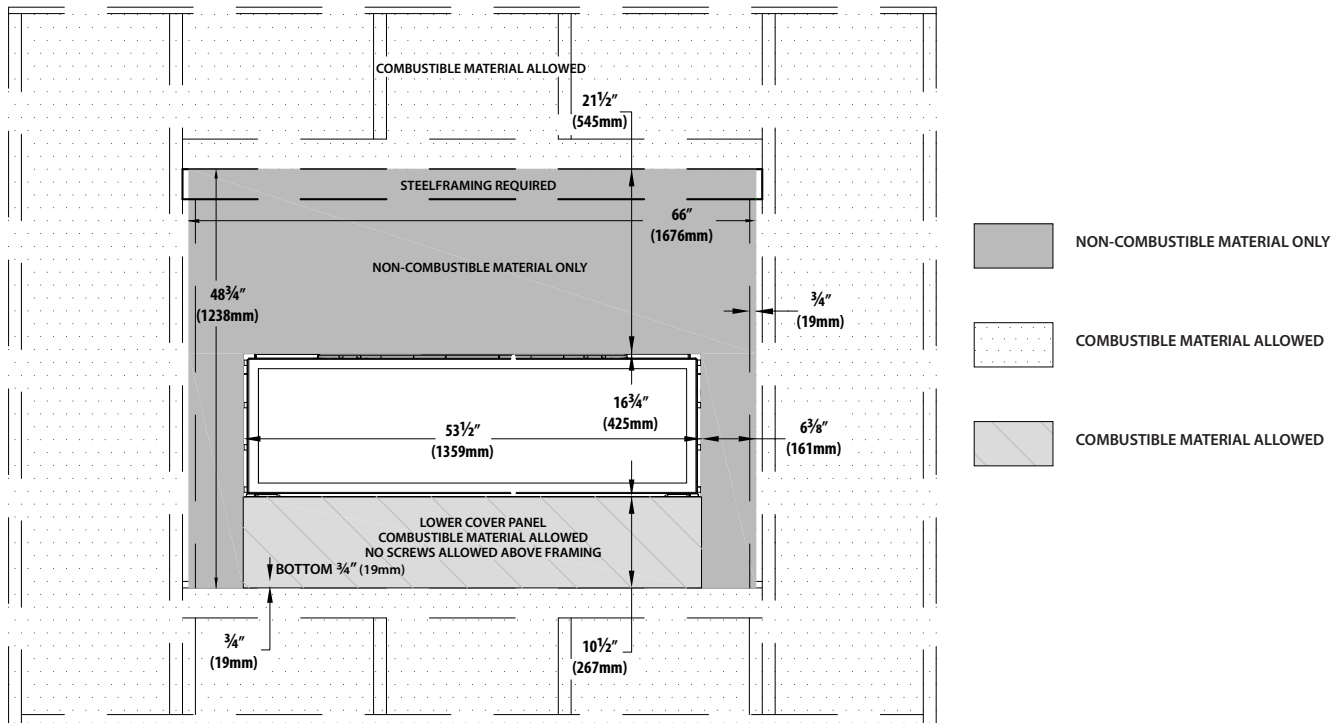

Figure 4.4, Minimum Non-Combustible Finishing Dimensions
3. Do not use screws above the framing for the gas and electrical components when installing the bottom panel. See Section Figure 4.4, Minimum Non-Combustible Finishing Dimensions on page 18 for maintaining required areas.